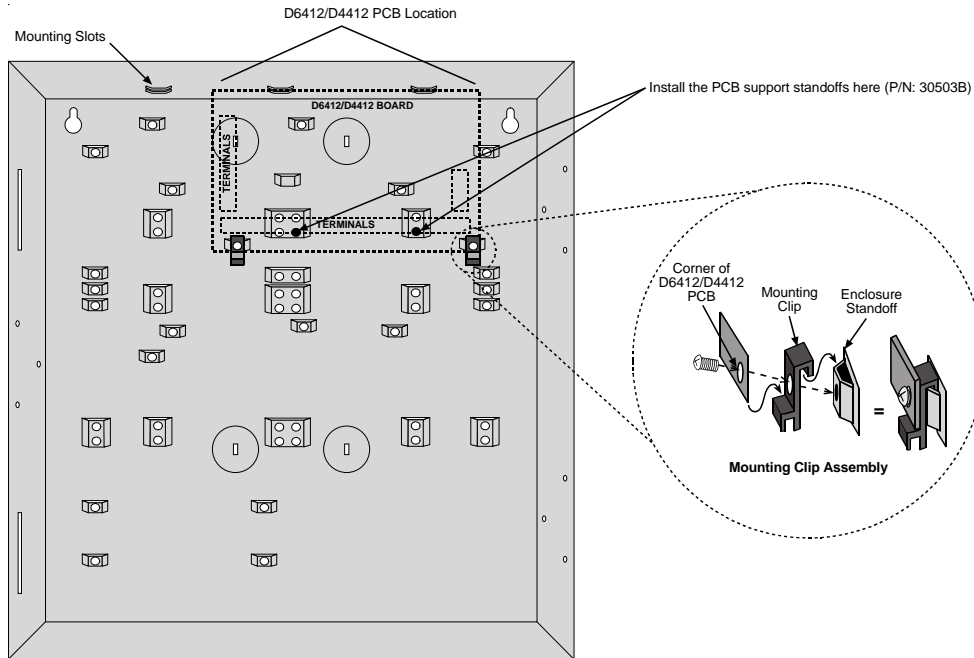

Figure 2: Enclosure Mounting
1. Place the panel mounting clips on the appropriate standoff in the enclosure (see *Figure 2*).
2. Slide the panel into the slots at the top of the enclosure and then secure it with the two screws provided (see *Figure 2*).